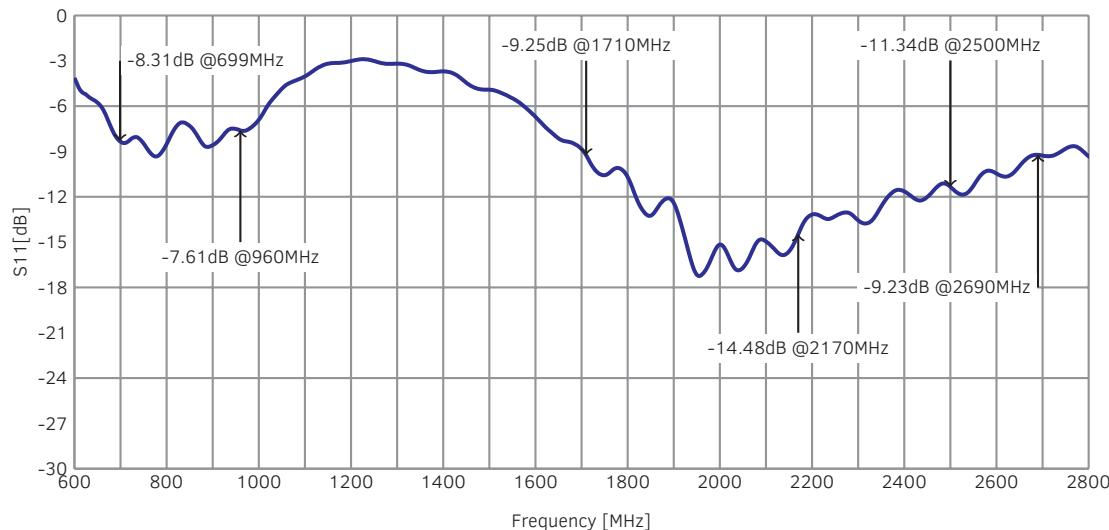

Figure 2.2: Return Loss level (RL = $-S_{11}\text{dB}$).
The AP-133a shows a Return Loss level (RL) better than 7 dB (figure 2.2) and a voltage standing wave ratio (VSWR) less than 2.5 (figure 2.2), which means